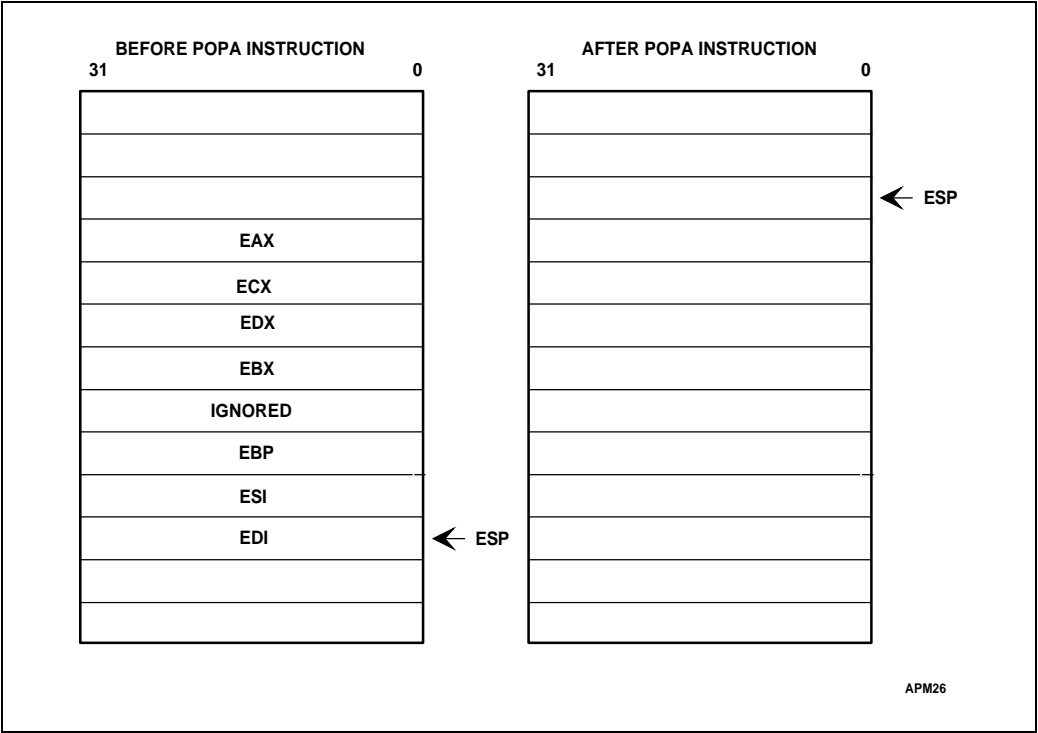

Figure 4-4. POPA Instruction
**POPA (Pop All Registers)** pops the data saved on the stack by PUSHA into the general registers, except for the ESP register. The ESP register is restored by the action of reading the stack (popping). See Figure 4-4.